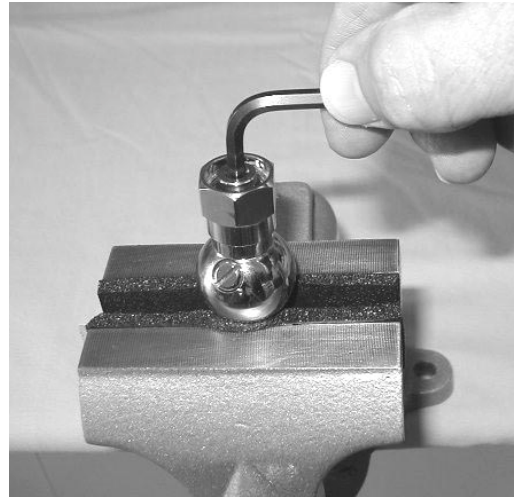

Fig. 1
1. Remove the Hose from the SECOND STAGE SWIVEL using an 11/16" open end wrench, while holding the hex portion of the BALL SWIVEL BASE (11) secure with an 11/16" thin wall open end wrench.
**⚠ CAUTION:** The NUT RETAINER (2) and SWIVEL NUT (5) should only be disassembled (steps 4 - 6) if the NUT RETAINER OUTER O-RING (1) or INNER O-RING (3) must be replaced.
4. To remove the SWIVEL NUT (5), secure the hex portion of the BALL SWIVEL BASE (11) in a padded vise oriented with the SWIVEL NUT (5) pointing straight up and remove the NUT RETAINER (2) by turning it out in a counter clockwise direction using a 5/32" allen key (Fig. 1).
5. Remove the NUT RETAINER WASHER (4). Discard and DO NOT attempt to reuse it.
6. Remove the NUT RETAINER OUTER O-RING (1) and INNER O-RING (3). Discard and DO NOT attempt to reuse them.